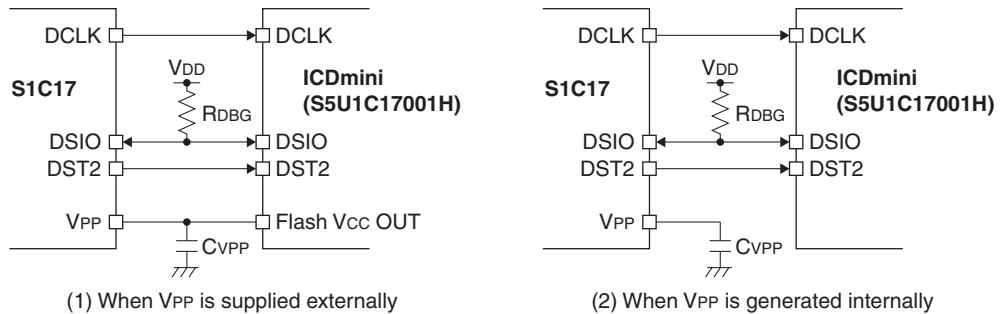

Figure 4.3.3.1 External Connection
The Flash memory supports on-board programming, so it can be programmed with the ROM data by using the debugger through an ICDmini. Figure 4.3.3.1 shows connection diagrams for on-board programming.
When reprogramming the EEPROM, the EEPROM controller (EEPROMC) uses the  $V_{PP}$  voltage generated internally. Connect  $C_{VPP}$  to the  $V_{PP}$  pin as shown in “(2) When  $V_{PP}$  is generated internally” of Figure 4.3.3.1. The notes described in Section 4.3.3 are also applied to EEPROM reprogramming.